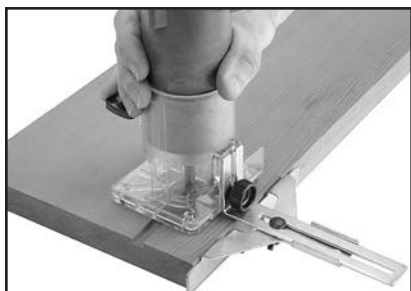

Figure 14. Example of routing a slot.
3. Follow the instructions in **Routing Operations** on **Page 13** to make the desired cut, as shown in **Figure 14**.